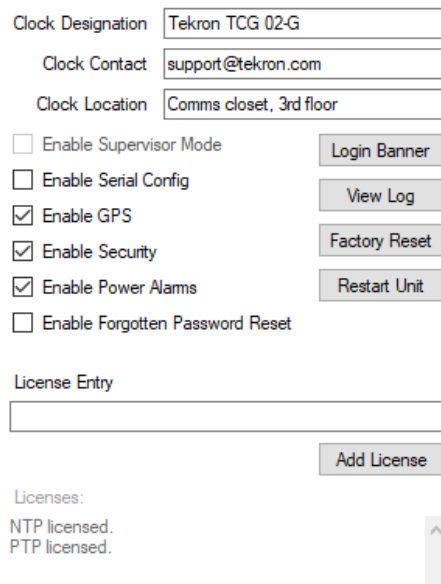

Figure 57 - "Maintenance" section
**“Clock Designation”:** A user configurable 255-character text field which can be used to name clocks on a LAN or WAN for differentiation of purpose or location. The “Clock Designation” appears in the “Name” Column in the discovery window, as well is in saved configuration files. Refer to Figure 57.
**“Clock Contact”:** A user configurable 255-character text field which can be used to enter a contact person and/or contact information for enquiries regarding the clock. Legacy clocks do not have this option. Refer to Figure 57.
**“Clock Location”:** A user configurable 255-character text field which can be used to describe the location of clocks on a LAN or WAN for differentiation of purpose or location. Legacy clocks do not have this option. Refer to Figure 57.